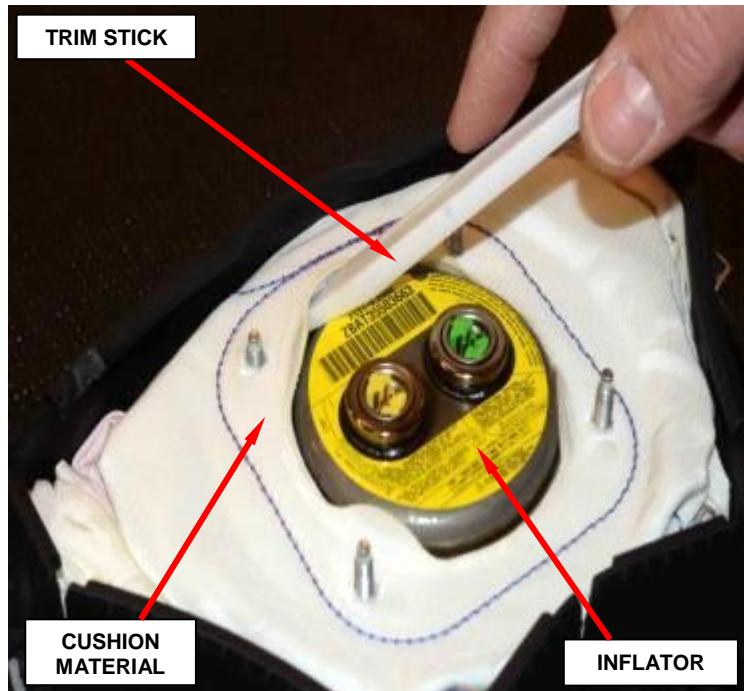

Figure 7 – Release Cushion Material
- a. Using a trim stick or equivalent, release the cushion material from the inflator (Figure 7).